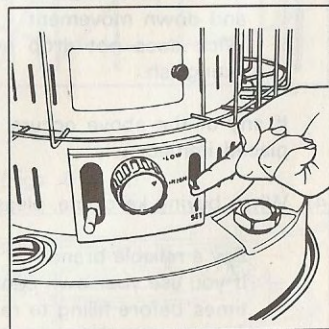

Fig. 11
- (3) Setting of emergency shut-off device. this heater is equipped with emergency shut-off device which is designed to extinguish the heater automatically when the heater is disturbed, shaken or overturned. The weight will activate the emergency shut-off device and immediately extinguish the flame. It is operated by a spring which retracts the wick and snuffs out the flame. You must set this system before lighting by pushing the lever up gently. (Fig.11)